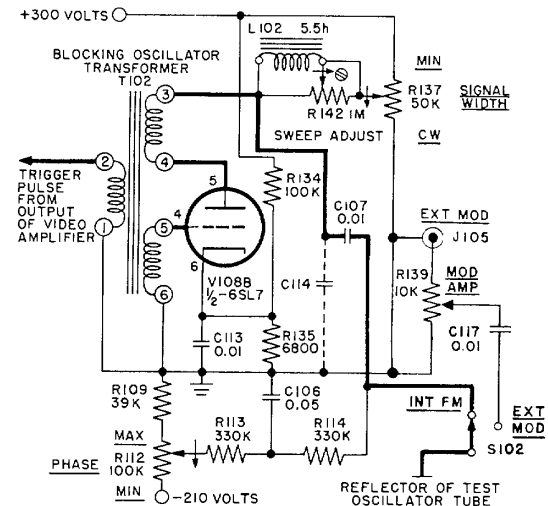

Figure 2-18. Blocking Oscillator Sweep and External Modulation Circuit
(1) The trigger detector and amplifier circuit provides the means for triggering the frequency sweep generator from RF pulsed power applied to the RF connector. The RF pulses are detected by a 1N23A crystal diode (CR101) in the RF output and detector section, the resulting voltage being applied to the trigger amplifier. The detected RF pulse can be observed by connecting an oscilloscope to the PULSE ANALYZER connector J106. The amplifier has three stages, is resistance coupled, and consists of one and one-half 6SL7 twin triodes, V107A and B and V108A, with a voltage gain of approximately 500. The voltage pulses from crystal CR101 are positive when applied to the grid of V107A, negative to the grid of V107B, positive to the grid of V108A, and negative at the plate of V108A. These negative pulses go through C111 to the primary winding of the blocking oscillator transformer (T102) where inversion takes place, thus delivering a positive pulse to trigger the blocking oscillator sweep circuit.
(2) Normally positive video trigger pulses applied to the TRIGGER connector (J102) are passed to the grid of V108A through C115 where they are treated in the same manner as above. Video trigger pulses are used when the equipment under test does not provide RF pulses.
(3) Trigger voltages are available at the TRIGGER connector from the rectified RF pulse (amplified by V107A and V107B), however, the voltage of the trigger is a function of the RF input and is likely to be insufficient to use as a trigger source. The shape of this trigger is also a function of the RF input. Another consideration in determining the suitability of this trigger is the input impedance of the equipment to be triggered. To low an input impedance may stop the blocking oscillator in the test set from operating.
c. BLOCKING OSCILLATOR SWEEP AND EXTERNAL MODULATION CIRCUIT. (See figure 2-18.)
(1) The frequency sweep circuit for the test oscillator (V104) is composed of a triggered blocking oscillator and an integrating network wherein the actual sawtooth waves are formed. The blocking oscillator consists of one-half of a 6SL7 twin triode (V108B) and a three winding transformer (T102). The circuit is conventional except that the grid is biased below cutoff so that a positive trigger pulse of sufficient amplitude to overcome the bias is necessary to start each cycle. The bias is applied to the cathode from the voltage divider R134 and R135.
(2) The sawtooth voltage is generated by the discharging and charging, from the B+ voltage, of capacitor C114. C114 represents the wiring capacitance of the wiring from SWEEP ADJUST to ground. The charging is slow compared to the subsequent rapid discharge of C114 by the blocking oscillator (V108B) when it receives a trigger pulse. When such a pulse is fed to transformer T102, a positive pulse appears